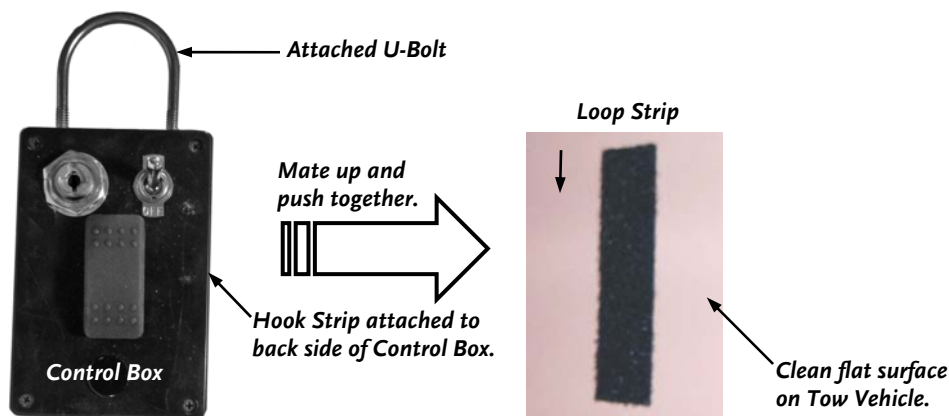

Figure 12
- Hang the Control Box by the attached U-Bolt (**Figure 12**) in an accessible and comfortable position on your Tow Vehicle from which you can operate the Control Box; or,
- Attach the Control Box on a clean flat surface using the self-adhesive Hook and Loop strips provided with the DR ROTO-HOG Power Tiller (**Figure 12**).